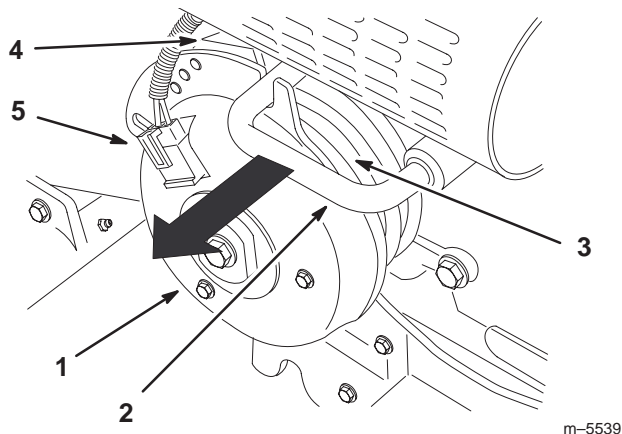

Figure 28
1. Unplug the clutch connector (Fig. 28).
2. Pull the PTO stop out of the clutch (Fig. 28).
3. Rotate the clutch to allow space between the belt guide and the clutch. This will allow the belt to be installed onto the pulley (Fig. 28).
4. Replace the belt and install new belt into the inside pulley (Fig. 28).
5. Install the PTO stop back into the clutch (Fig. 28).
6. Install the clutch connector (Fig. 28).